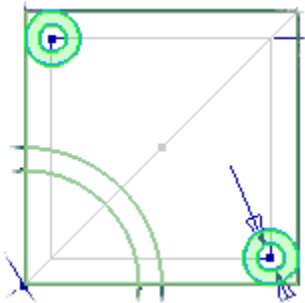

Figure 25: Profile selection for multiple features.
6. Select the two profiles between the small circles as shown in Figure 25.
11. Select the same two profiles between the small circles as shown in Figure 25.